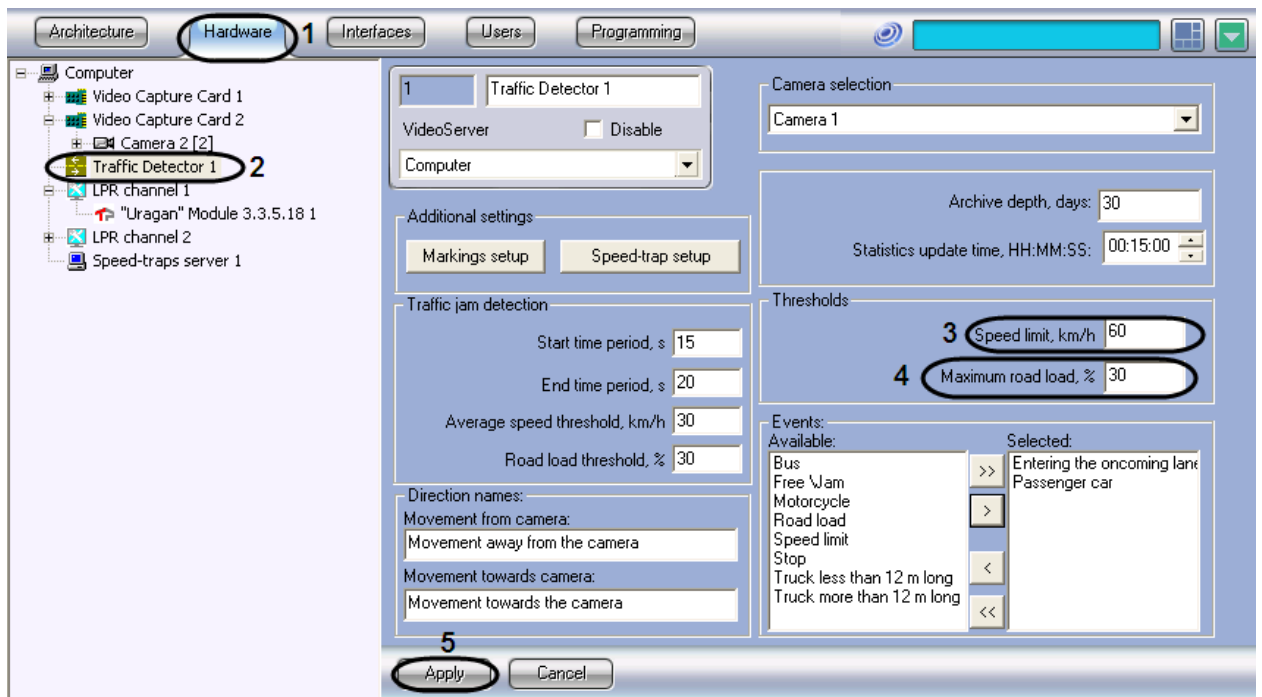

Fig. 7.4—20 Setting up the traffic limits
2. In the object tree on the left side of the Hardware tab, select the Traffic Detector object representing the Traffic Detector module to be set up. The settings panel of the selected object will open on the right side of the window (see Fig. 7.4—20).